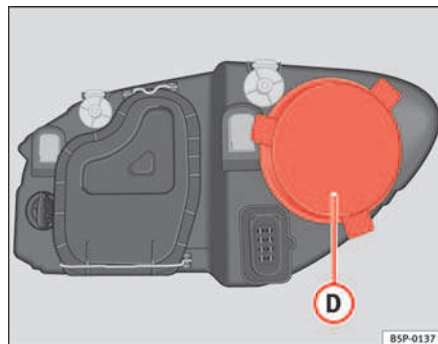

Fig. 179 Side lights
- Remove the cover ⇒ fig. 179 ① by pulling on this.